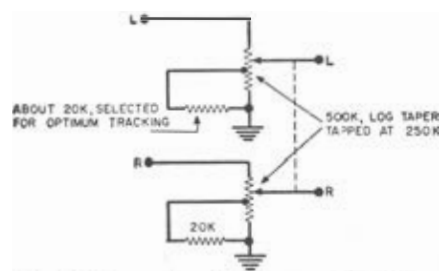

Fig. 6. Tapped controls for good tracking.
3. Employ pots with taps, as in Fig. 6, to bring the two pots into correspondence at a number of intermediate points between minimum and maximum rotation.